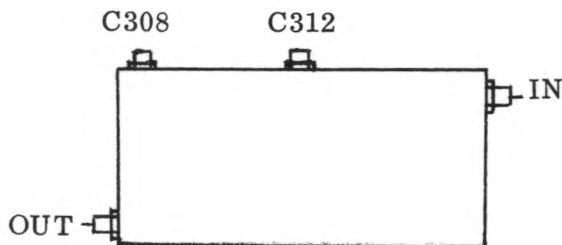

Fig. 16
4.3.2 Remove P303 from the CIA P. C. board. Now carefully adjust each trimmer on the CIA sound trap box (see Fig. 16) for minimum sound carrier level as indicated by the meter or analyzer. A level of -35 dB or lower, relative to the video carrier level, is satisfactory for sound carrier regulation.